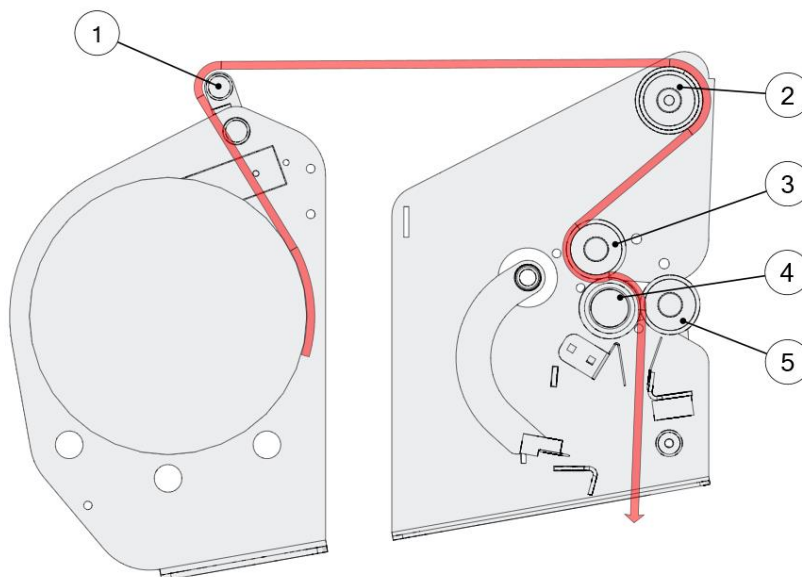

Figure 23. Distributing the net
- Spread the net, as shown in Figure 23, running it through the successive rollers (1, 2, 3, 4, 5);
- Turn the rubber roller (4) so that the end of the net hangs freely behind it, by about 10cm;